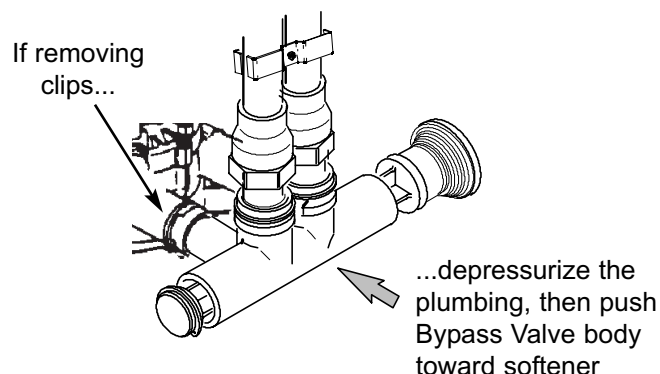

FIG. 14
7. Check for leaks around clips at softener's inlet and outlet. If a leak occurs at a clip, depressurize the plumbing (turn off the water supply and open faucets) before removing clip. When removing clips at the softener's inlet or outlet, push the single bypass valve body toward the softener (See Figure 14). Improper removal may damage clips. Do not reinstall damaged clips.